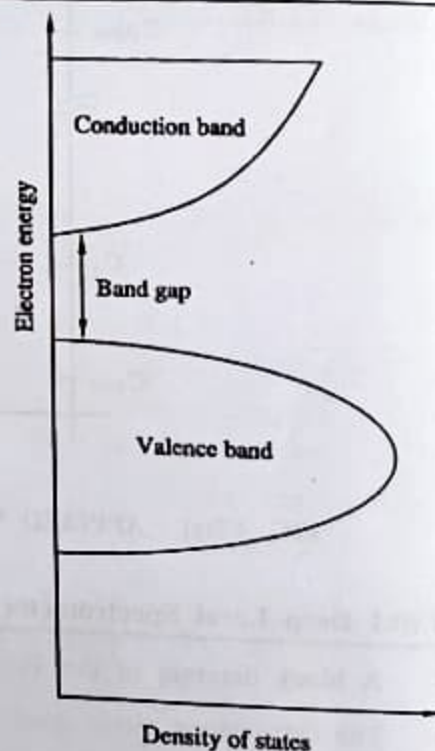

FIG. 4.9 : EXPLANATION OF BAND GAP
- The term 'band gap' refers to the energy difference between the top of the valence band to the bottom of the conduction band, Fig. 4.9, in which electrons are able to jump from one band to another.
- A diagram shows the band gap is shown in Fig. 4.9.